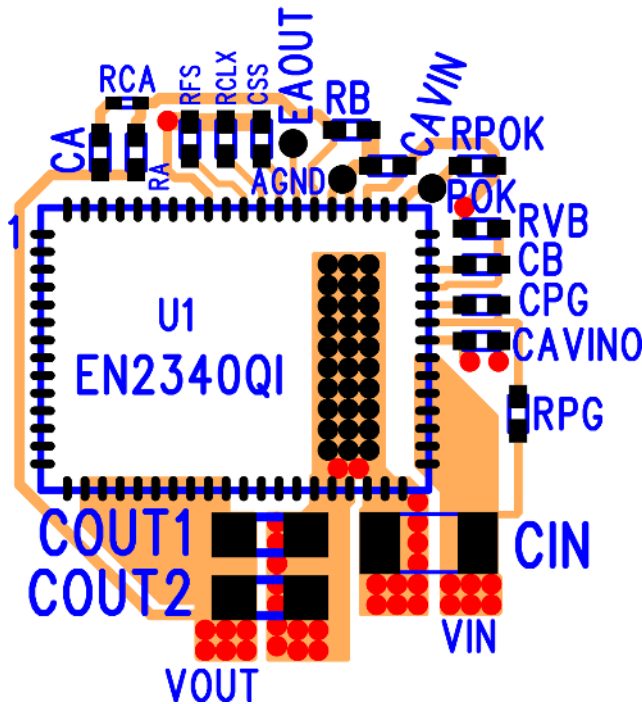

Figure 14. Top Layout with Critical Components Only (Top View)
**Recommendation 6:** AVIN is the power supply for the small-signal control circuits. It should be connected to the input voltage at a quiet point. In Figure 14 this connection is made at the input capacitor.
**Recommendation 7:** The layer 1 metal under the device must not be more than shown in Figure 14. Refer to the section regarding Exposed Metal on Bottom of Package. As with any switch-mode DC-DC converter, try not to run sensitive signal or control lines underneath the converter package on other layers.
**Recommendation 9:** Keep  $R_A$ ,  $C_A$ ,  $R_B$ , and  $R_{CA}$  close to the VFB pin (Refer to Figure 14). The VFB pin is a high-impedance, sensitive node. Keep the trace to this pin as short as possible. Whenever possible, connect  $R_B$  directly to the AGND pins 52 and 53 instead of going through the GND plane.